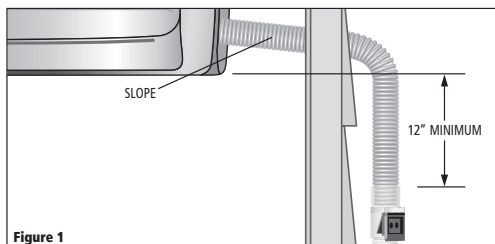

Figure 1
1. Trap must be fitted at least 12" below indoor unit (**Figure 1**).